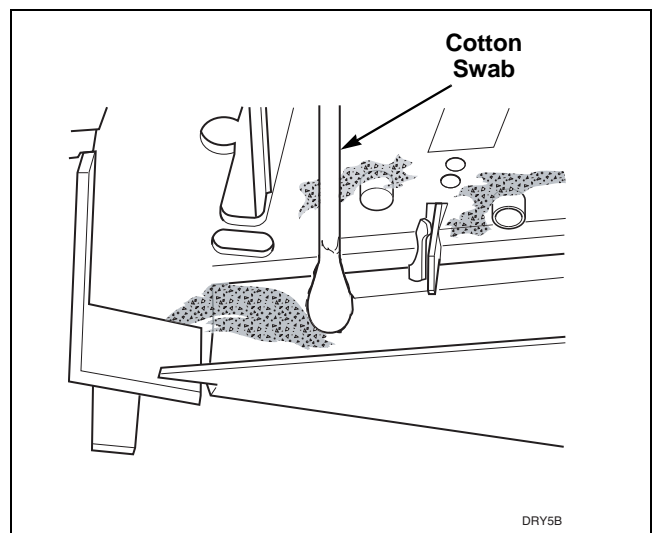

Figure 65
- Check coin path in coin drop for lint and residue. If lint or light residues are present, use a cotton swab to remove. If heavy residue is present, it may be necessary to first scrape off excessive residue and then use a cotton swab dipped in water or isopropyl alcohol (rubbing alcohol) to remove remainder of residue. Refer to *Figure 65*.